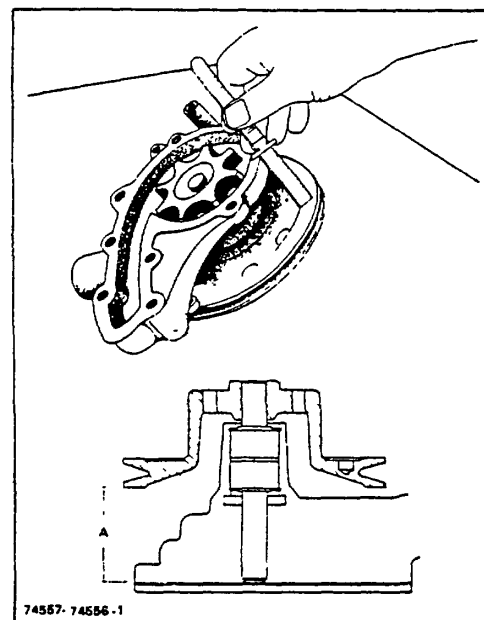
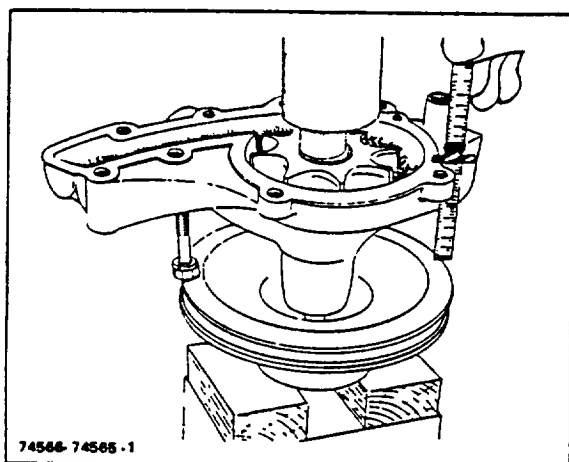

Figure 2-2. Measuring Distance Between Pump Body and Rear of Pulley Flange.
Figure 2-5. Pressing Water Pump Pulley to Correct Depth
1. Remove the back plate from the pump and measure the distance from rear of pump body to rear of pulley flange, see Figure 2-2. This measurement, "A" shown in Figure 2-2, insert, is used during pump installation.
- Place the pulley on a flat surface, see Figure 2-5, pressing on END of shaft with arbor to dimension determined in the Disassembly section (Figure 2-2). Pulley should rotate freely.